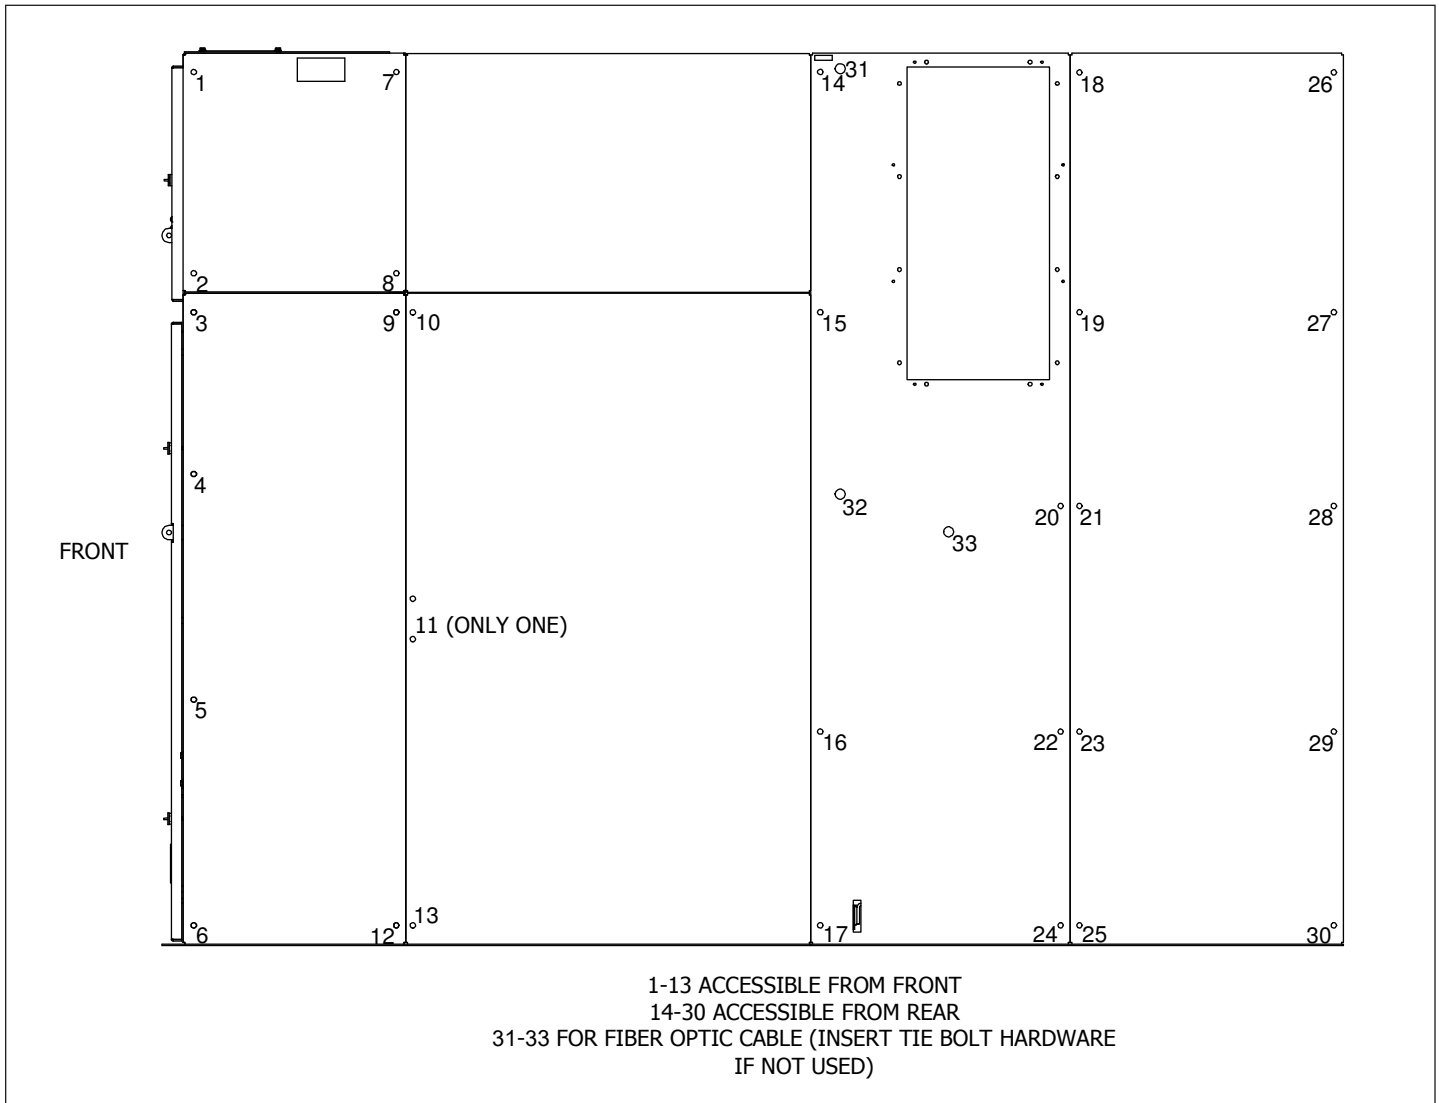

Figure 1. Tie-bolt Locations.
Install tie-bolts in the rear module section between the shipping splits. See Figure 1 for the tie-bolt locations. Bolt holes #14 - #30 can be accessed from the rear module. Holes 31-33 are used for fiber optic cables. If not used, fill with tie-bolt hardware.
- C. Open all the front doors at the shipping split sections. Install tie-bolts in the mid and front module sections between the shipping splits. See Figure 1 for the tie-bolt locations. Bolt holes #1 - #13 can be accessed from the front module.